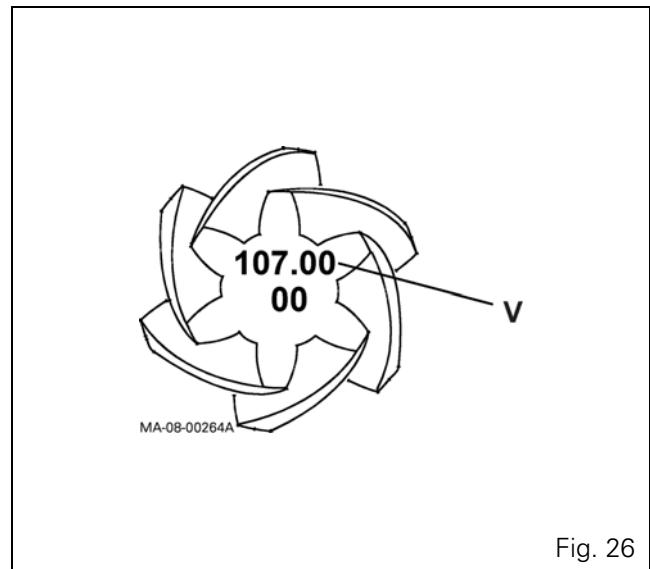

Fig. 26
30. To determine the necessary thickness S between the gear and bearing, subtract the value V engraved on the gear head (V = required apex distance) from the measured value B (Fig. 26):